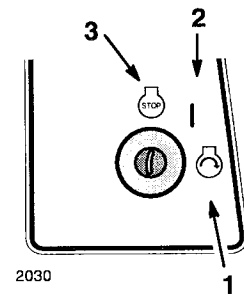

Figure 11
6. Turn the ignition key clockwise and hold it in the "START" position (Fig. 11). When the engine starts, release the key.
2. Turn the ignition key to "OFF" (Fig. 11).